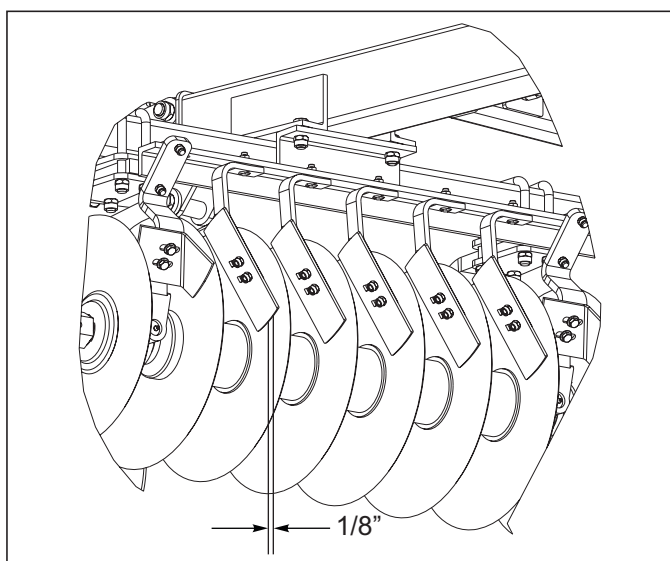

Figure 4-1: Disc Scraper to Disc Blade
5. Check disc scrapers for proper adjustment to the disc blade **See Figure 4-1**.